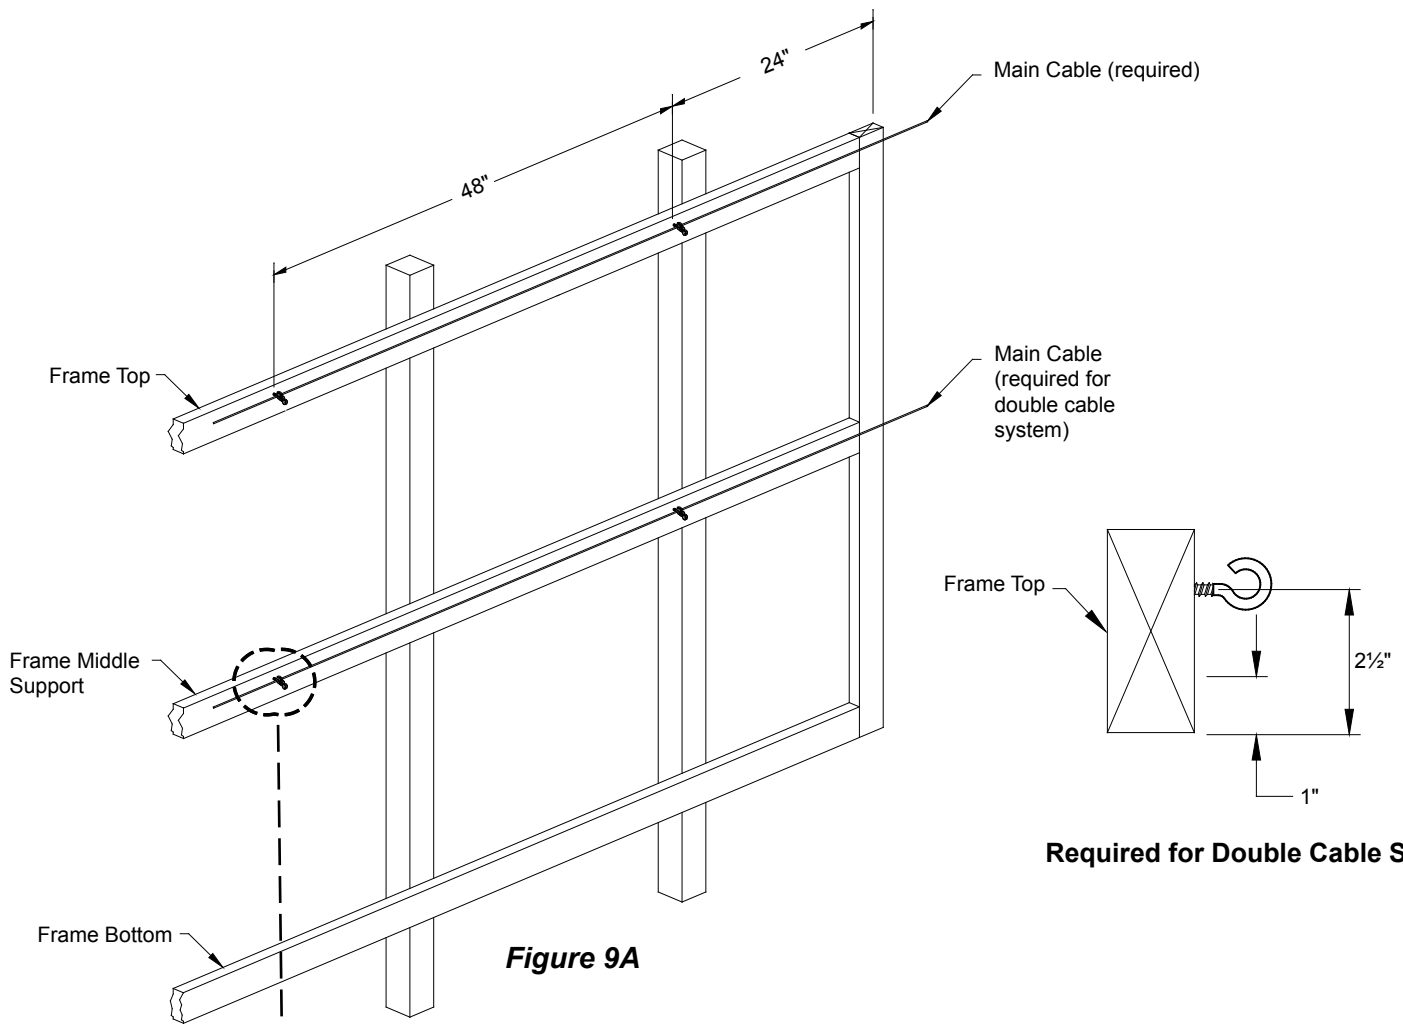

Figure 9A
- 5) Attach the main cable to the actuator and pull it from actuator end of the tunnel door frame to opposite end of frame, it may be necessary to install some screw hooks, temporarily, to hold the cable in place along the frame top. **See Figure 9A & 9C.**